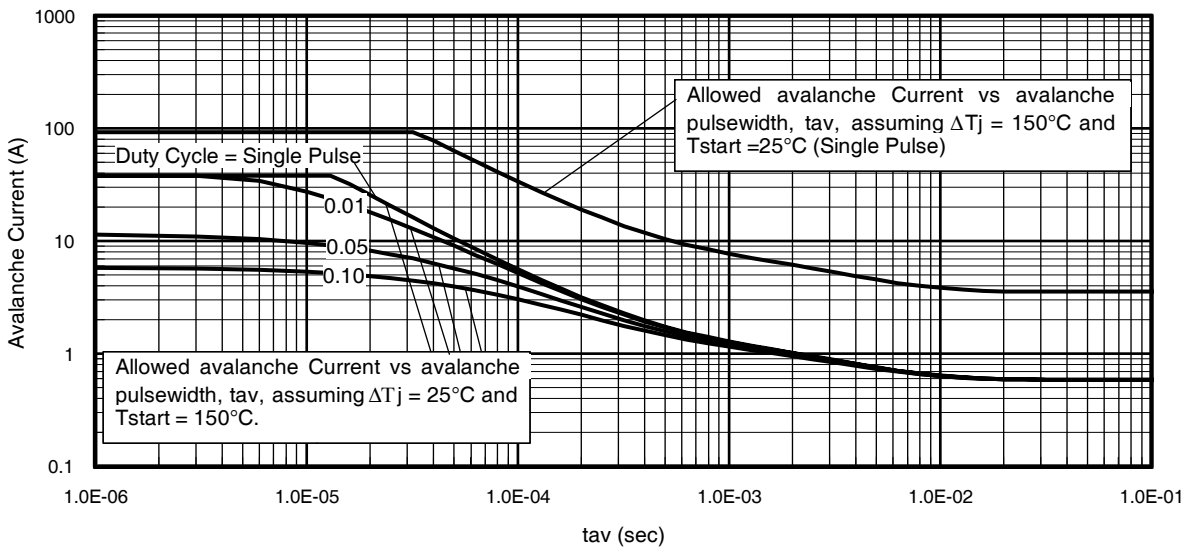

Fig 14. Typical Avalanche Current vs. Pulsewidth
**Notes on Repetitive Avalanche Curves, Figures 14, 15:**
- $\Delta T$  = Allowable rise in junction temperature, not to exceed  $T_{jmax}$  (assumed as 25°C in Figure 14, 15).